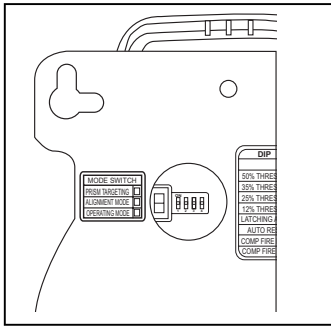

Fig 12 Mode switch
1. Switch on the beam detector. Push the mode switch (*Fig 12*) up to 'prism targeting mode'.
2. Push the mode switch (*Fig 12* on page 13) down to Operating Mode.